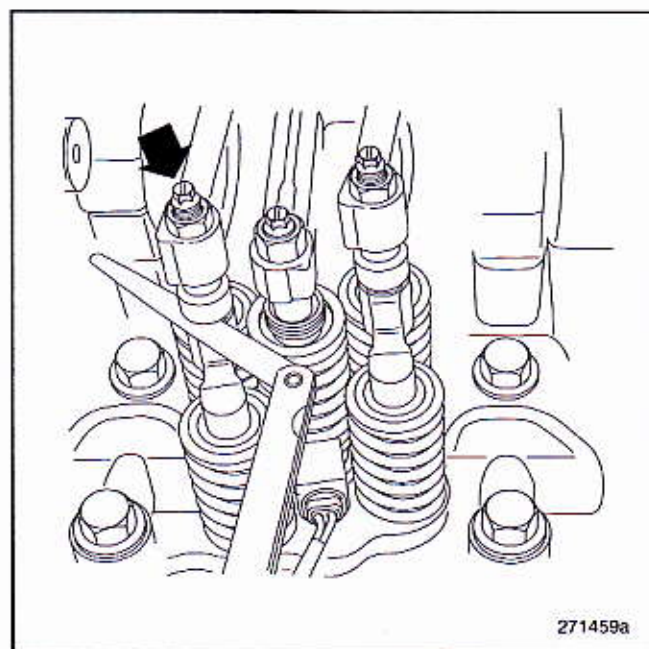

Figure 436 — Checking Inlet Valve Clearance
2. Using a feeler gauge, check the clearance between the rocker arm adjusting screw and the valve yoke (bridge) of the inlet valves. Refer to Figure 436.